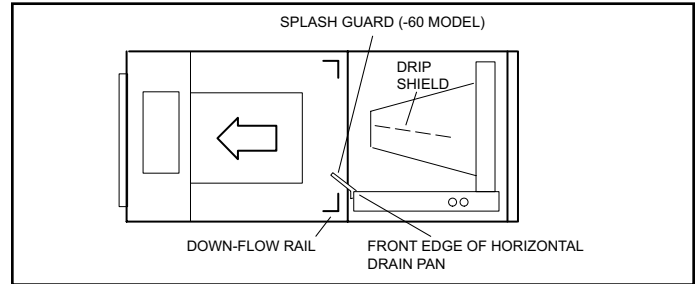

Figure 4. Left-Hand Discharge Configuration
10. Install the splash guard (-060 model only) on the front edge of the horizontal drain pan as illustrated in Figure 4.